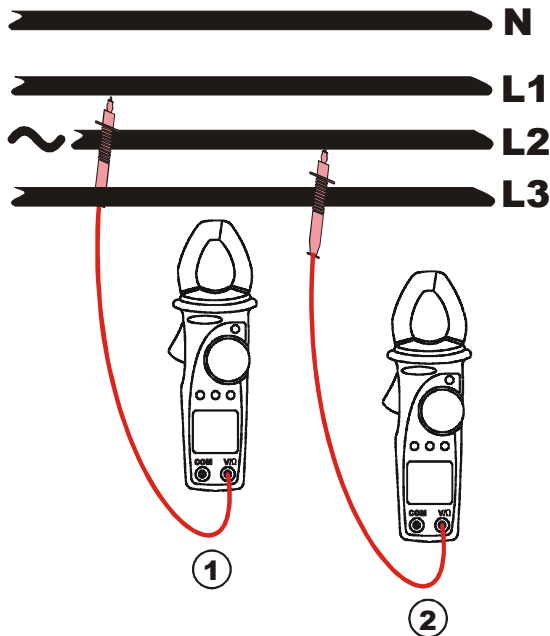
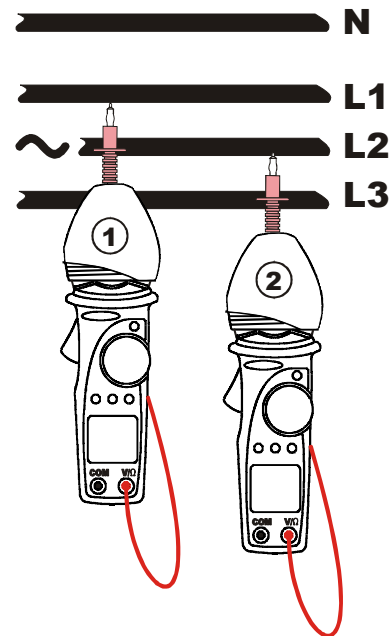

Fig. 14: phase rotation detection
Fig. 15: phase rotation detection with rubber cup
4. Connect the red terminal to the L1 phase conductor (see Fig. 14, 1st measurement). If necessary use the rubber test lead holster and insert the red test lead (see Fig. 15, 1st measurement).
9. Connect the test lead to the L2 phase conductor (see Fig. 14 or Fig. 15, 2nd measurement).
9. Connect the test lead to the second cable (see Fig. 14 or Fig. 15, 2nd measurement).